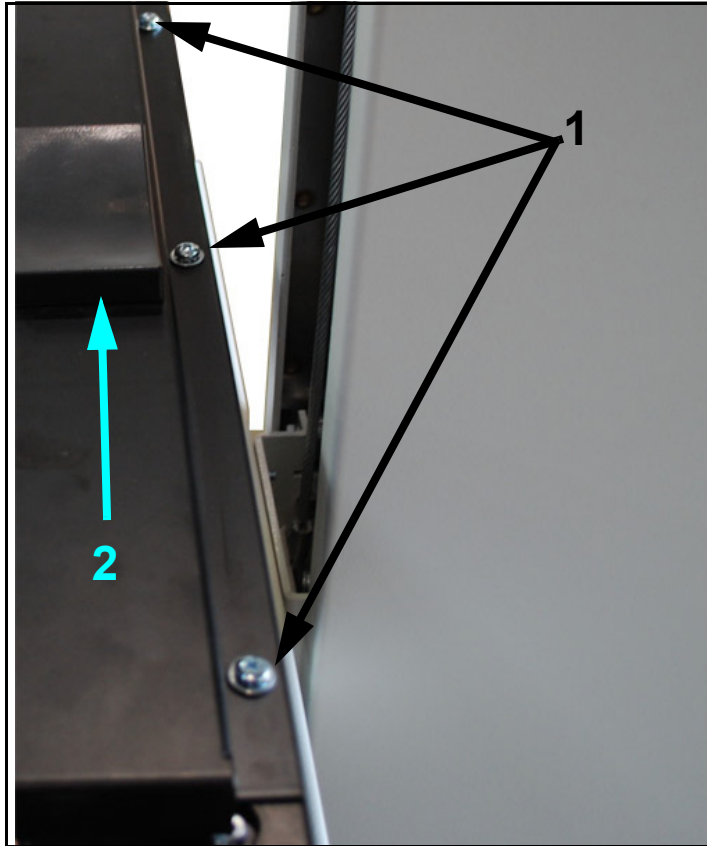

Figure 5-7. Upper Bracket Screws
- 6** Unfasten the 3 screws (1 in Figure 5-7) that hold the chin rest (2) in place.